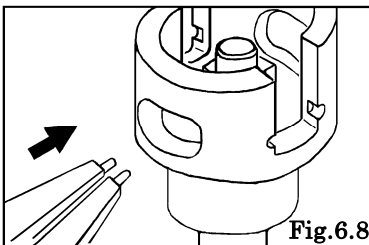

Fig.6.8
- With snap ring pliers, push to remove the interlocking bushing while widening its groove. [Fig.6.8 and 6.9]